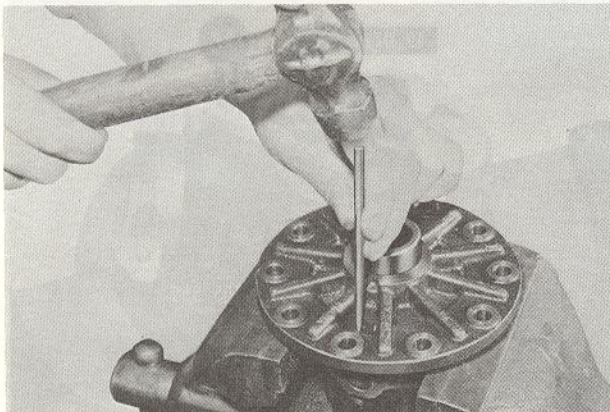

Fig. 9-14 Removing pinion shaft lock pin
3. From the back side of the ring gear flange, drive the pinion shaft lock pin out of the gear case with a suitable drift, as shown in Fig. 9-14.